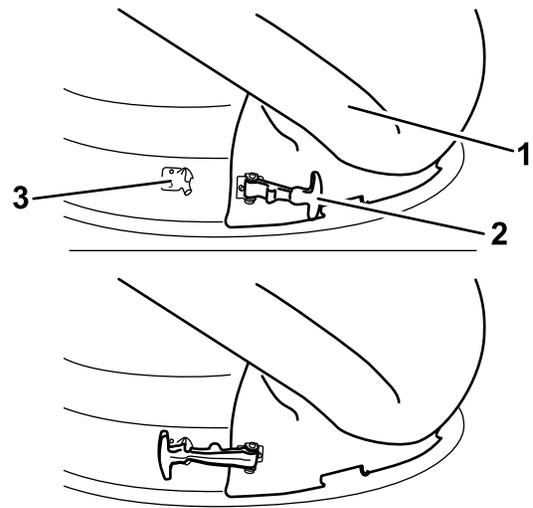

Figure 24
4. Secure the chute to the 50 inch deck by hooking the flexible latch on the chute to the retaining clasp welded on the mower deck (Figure 24).